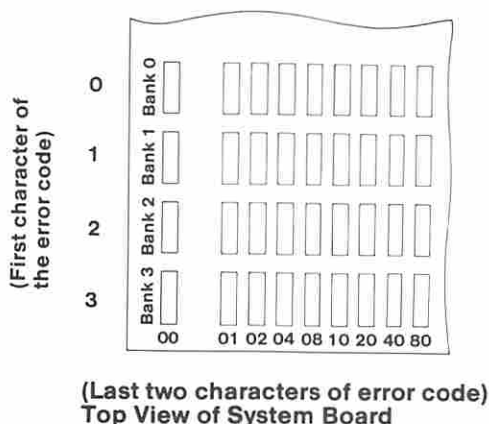

Figure 3. System Board
- Find the failing bank and module in Figure 3.